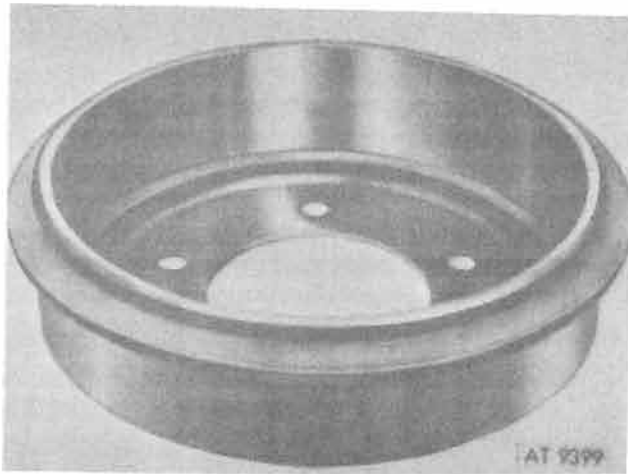

Figure 14-2. Brakedrum.
a. *Brakedrums* (fig. 14-2). Inspect brakedrums